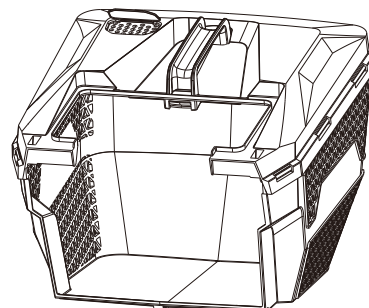

Fig. 7
- The grass catcher (16) is ready for use (Fig. 7).